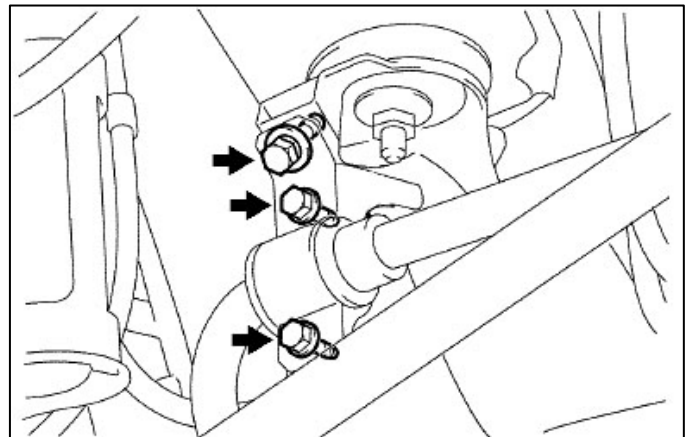

Figure 6
3. Remove the 6 bolts (3 on each side) retaining the rear stabilizer bar bracket to the bar bracket (Figure 6). The upper ones are different than the lower 4, so be sure to recognize which is which for installation.